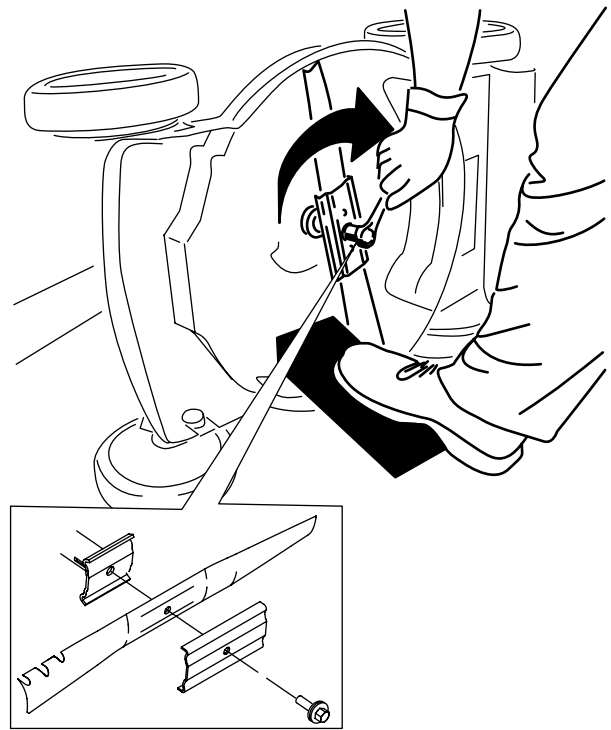

Figure 33
5. Install the new blade and all mounting hardware (Figure 33).